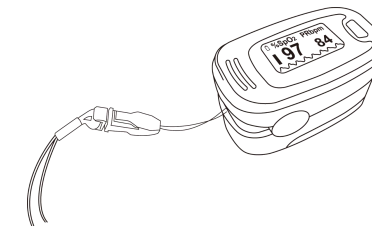

Figure 6 Mounting the hanging rope
- Step 1. Put the end of the rope through the hole as shown in Figure 6.